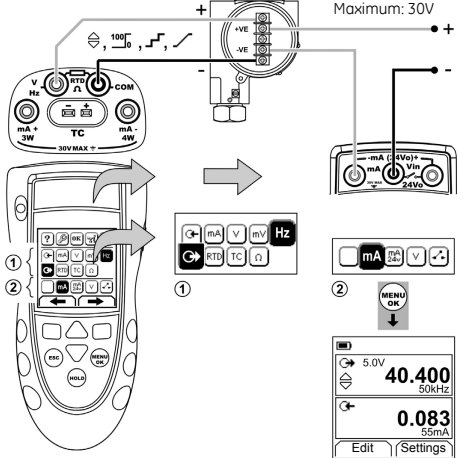

Figure 10: Example configuration - Transmitter calibration with external loop power
- 1. Connect the instrument (Figure 10/11) and, if necessary, adjust the Set Up (Table 1).